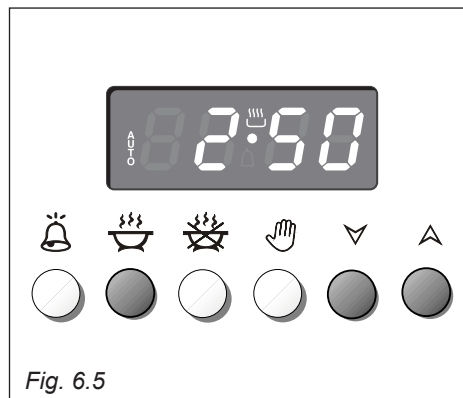

Fig. 6.5
1. Set the length of the cooking period by pushing the  button and the  button to increase, or  to decrease if you have passed the desired time (fig. 6.5). The **AUTO** and the  symbol will illuminate.